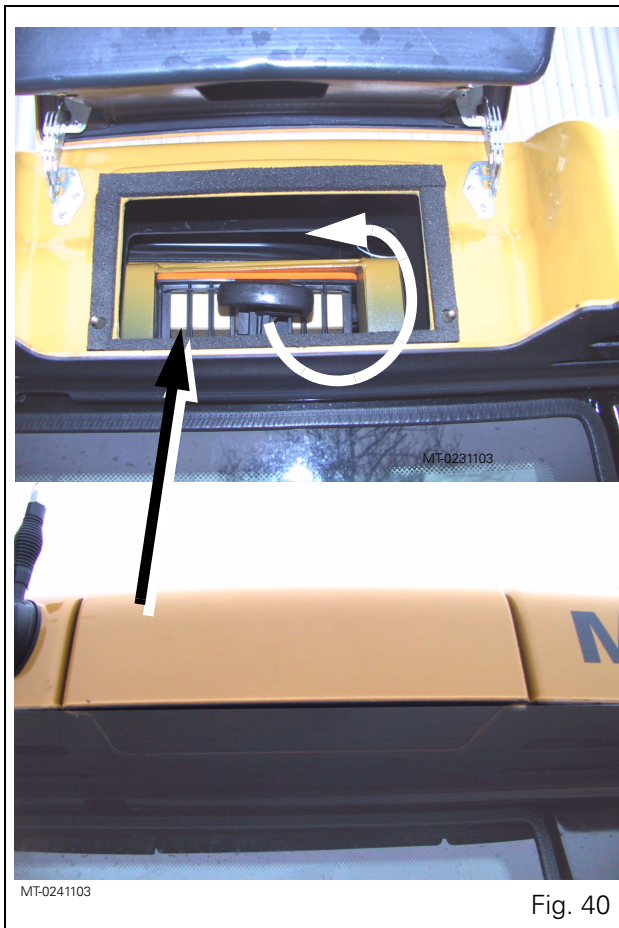

Fig. 40
1. To gain access to the cab air filter, open the hatch on the left-hand side of the cab roof (Fig. 40).